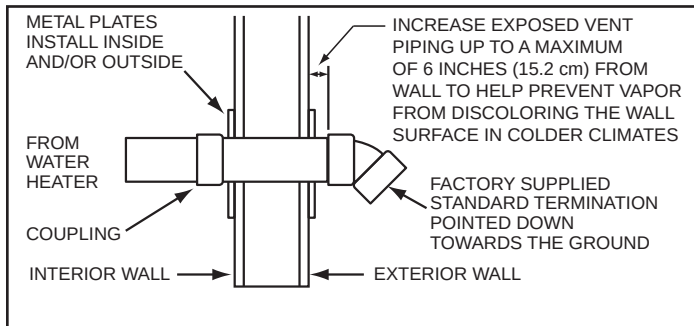

Figure 26. Side-Wall Termination Installation
9. Cut a length(s) of pipe being installed 3.5 inches (8.9 cm) to 9.5 inches (24.1 cm) longer than the wall thickness at the opening. See *Figure 26* (page 28).
12. Working from outside, slide the pipe and termination(s) assembled in the above steps through the wall. Ensure the termination(s) is pointed down towards the ground. See *Figure 26*.
16. Install a coupling to the end of the pipe(s) inside the building. Before the silicone caulking has time to completely set go outside the building and ensure the termination(s) is still pointing down towards the ground. See *Figure 26*.